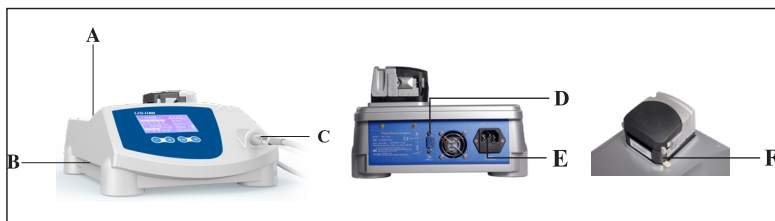
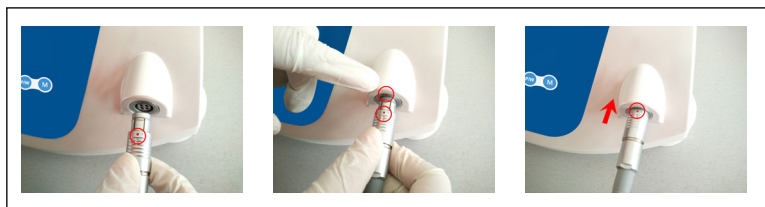

Fig.6
Fig.7
**Danger:** Do not install the device on or in the vicinity of sources of heat. Install it such a way that there is an adequate circulation of air around it. Leave sufficient free space around it, in particular with reference to the fan on the rear. (Fig.6)
6.3.2 Insert the rod for supporting the bag into the holes provided for it (Fig.6—
6.3.3 Connect the footswitch to the casting of the device by inserting the plug into the footswitch socket (Fig.6—Ref.D);
6.3.4 Plug the power cable into the connector on the casting of the device (Fig.6—Ref.E) and then into the power outlet;
6.3.5 Insert the handpiece support into the two holes provided for it (Fig.6—Ref. C);
6.3.11 press the button “on/off” (Fig.6—Ref.B), then can use the device.
7.5.4 Make sure that the US-II (LED) handpiece is correctly connected to the handpiece connector (Fig.6-Ref.C, Fig.7);